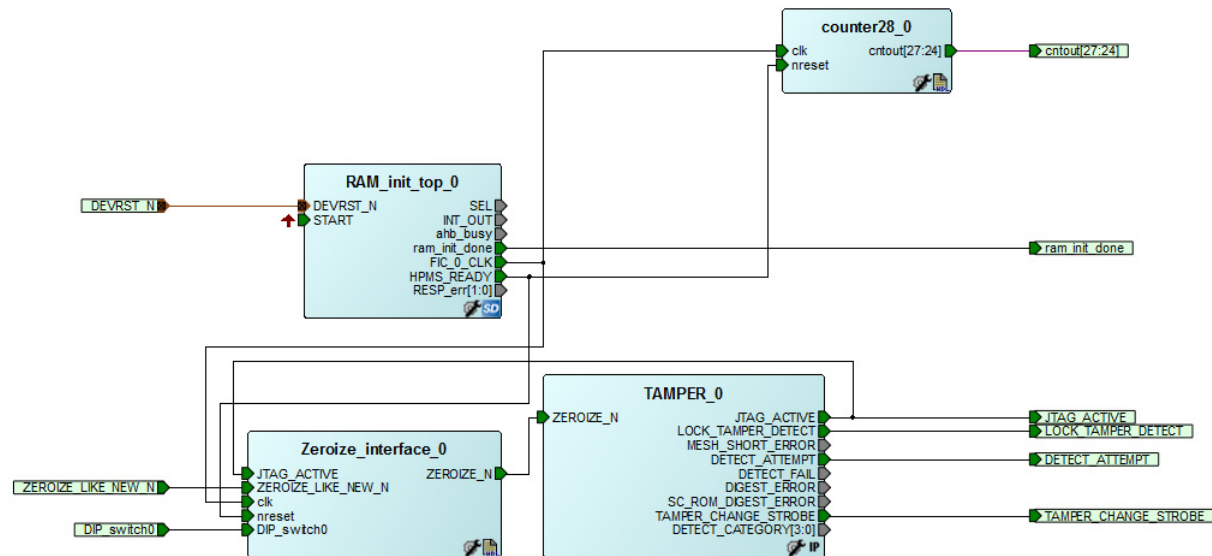

Figure 9 • Zeroize_M2GL090 Top Level Block Diagram
Figure 9 shows the top level block diagram of the IGLOO2 design example. It includes the following components:
- **RAM_init_top_0**: This block includes HPMS block and clock input. It also includes RAM_init_top_0 block to store the eNVM data after power up, as shown in Figure 9. The AHBMASTER_FIC_0 inside RAM_init_top_0 block acts as an AHB master and moves data from eNVM to SRAM after power up. The RAM_init_top_0 uses 50 MHz RC oscillator as clock input and a fabric PLL is used to generate a 100 MHz clock from the 50 MHz RC oscillator clock. This 100 MHz clock is used as the base clock for the HPMS and also for the fabric.